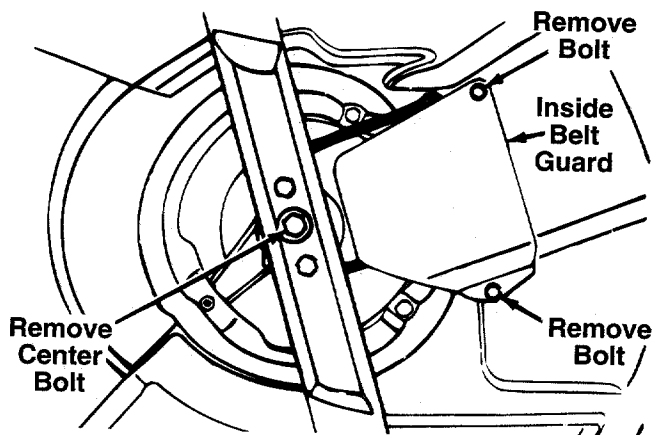

FIGURE 17.
- Remove the inside belt guard by removing two self-tapping screws. A 3/8" wrench is required. See figure 17.